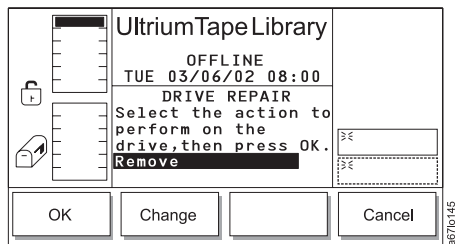

Figure 4-202. Repair Dialog
5. Press the button below the **Repair** softkey. The Repair Dialog displays (see Figure 4-202 on page 4-109) with the Remove or Replace function highlighted.